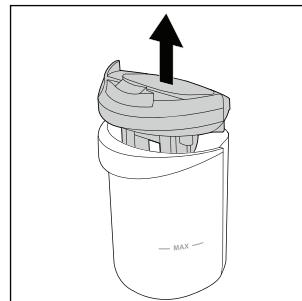

Fig. 21
- ◆ Pull the lid of the waste water tank **⑨** upwards out of the waste water tank **②** (see fig. 21).